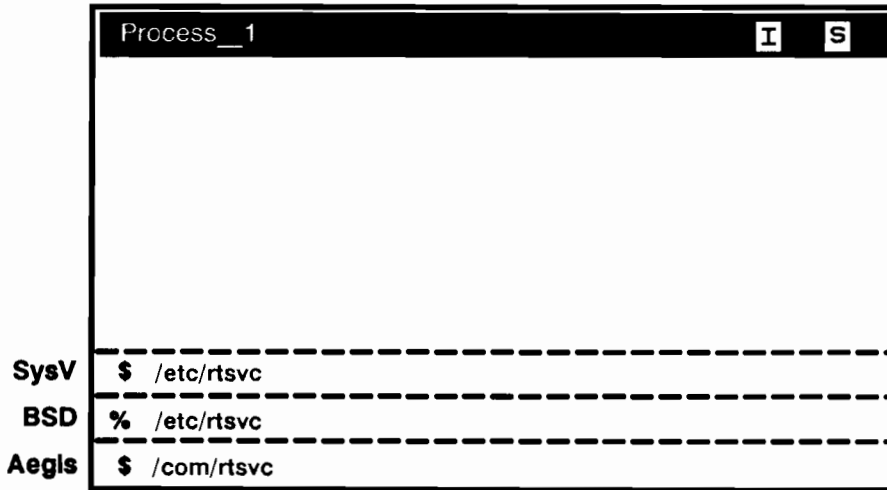

Figure 8-1. Checking the Principal Network on Another Node
2. Verify the principal network of the node you chose in Step 1 by typing the `rtsvc` command shown in Figure 8-1.